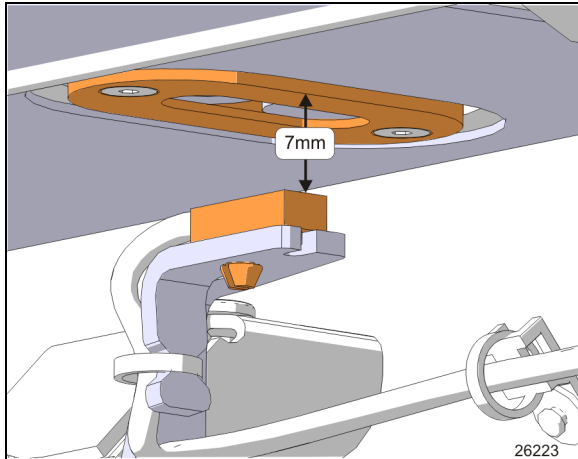

FIGURE 52: SENSOR VERTICAL ADJUSTMENT
- Bring slowly the sensor toward the outside of the vehicle until the LED turns on. When it does, move it 0.079” (2mm) further in the same direction. Adjust vertically to 7mm from magnet support face (Figure 52). Tighten the mounting bracket screws.
does, move it 0.079” (2mm) further in the same direction and adjust vertically to 7mm from magnet support face (Figure 52). Tighten the mounting bracket screws.